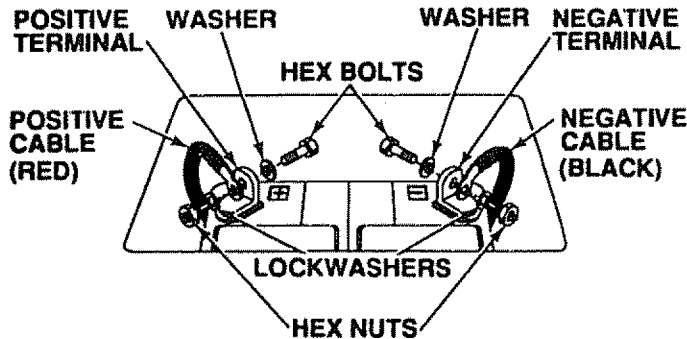
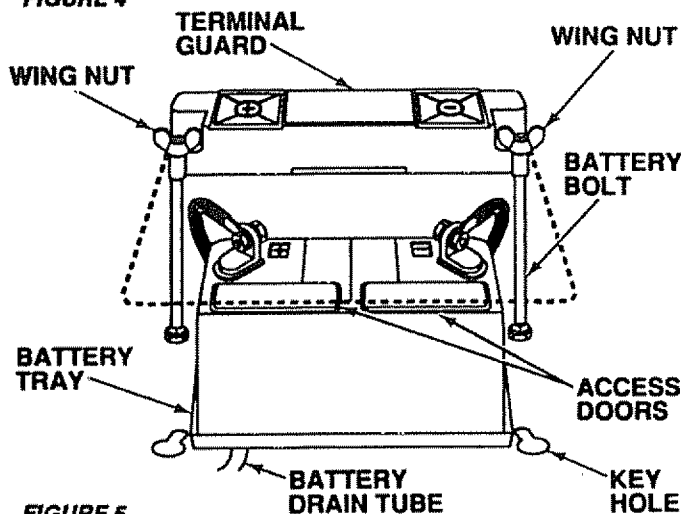

FIGURE 4
FIGURE 5
- b. Lower battery into fender well with battery terminals toward front of tractor (Fig. 4). Make sure battery rests in battery tray (Fig. 5)
NOTE: BE SURE BATTERY DRAIN TUBE IS SECURELY ATTACHED TO BATTERY TRAY DRAIN (Fig. 5).
- c. Connect **RED** battery cable to positive (+) battery terminal with hex bolt, flat washer, lock washer and hex nut (shown full size on pg. 6) found in bag of parts. Tighten securely with two 7/16" wrenches. (Fig. 4).
- d. Connect **BLACK** ground cable to negative (-) battery terminal with remaining hex bolt, flat washer, lock washer and hex nut (shown full size on pg. 6) found in bag of parts. Tighten securely (Fig. 4).
- f. Slide two battery bolts through terminal guard and start the wing nuts onto the threads (Fig. 5).
- g. Position terminal guard over battery as shown (Fig. 5) and align bolt heads with key holes next to battery tray (Fig. 5).
- h. Lower bolt heads into key holes and slide square shafts of bolts into slots of key holes (Fig. 5).